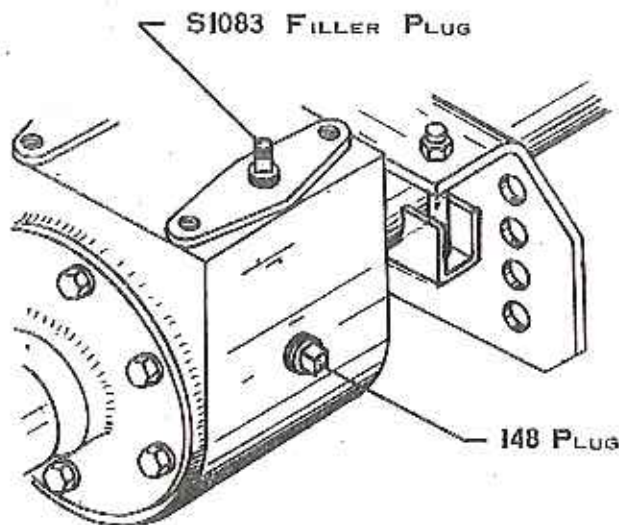

Fig. 1
A LIGHT MACHINE OIL SHOULD BE USED ON ALL MOVING PARTS TO KEEP JOINTS FROM WEARING AND SQUEAKING. REMOVE OIL FILLER PLUG (S1083) LOCATED ON TOP OF TRANSAXLE. REMOVE PLUG NO. 148 ON REAR OF TRANSAXLE. REFER TO FIGURE 1. FILL WITH A GOOD GRADE OF SAE 90 GEAR LUBE THRU S1083 FILLER PLUG UNTIL OIL RUNS OUT THRU HOLE FOR 148 PLUG. THE TRANSAXLE WILL REQUIRE APPROXIMATELY 4 1/2 QUARTS TO FILL.
1. USE SAE 90 WEIGHT OIL TO FILL. FILL UNTIL OIL RUNS OUT THRU HOLE FOR I48 PLUG. (REF. FIGURE 1).